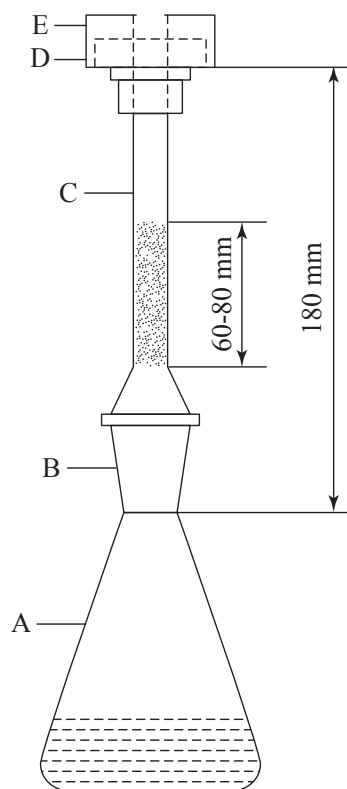

Figure 4 Apparatus for the test of arsenic (III) oxide in CMM samples
- (a) Transfer 2 mL of test solution to the flask (Fig. 4), add 5 mL of hydrochloric acid, 21 mL of water, 5 mL of potassium iodide solution (16.5%, w/v) and 5 drops of acidic tin (II) chloride solution.
- (b) Transfer 2 mL of standard solution to the flask (Fig. 4), carry out the procedure as stated in (a). Collect and examine the mercuric bromide test paper. Less intense orange spot should be observed in (a) when compared to (b).